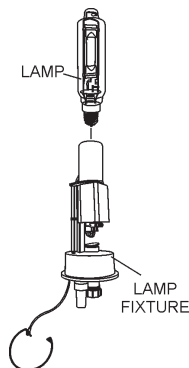

Figure 20. Inserting the Lamp
1. Screw the lamp into the lamp fixture as shown in Figure 20.